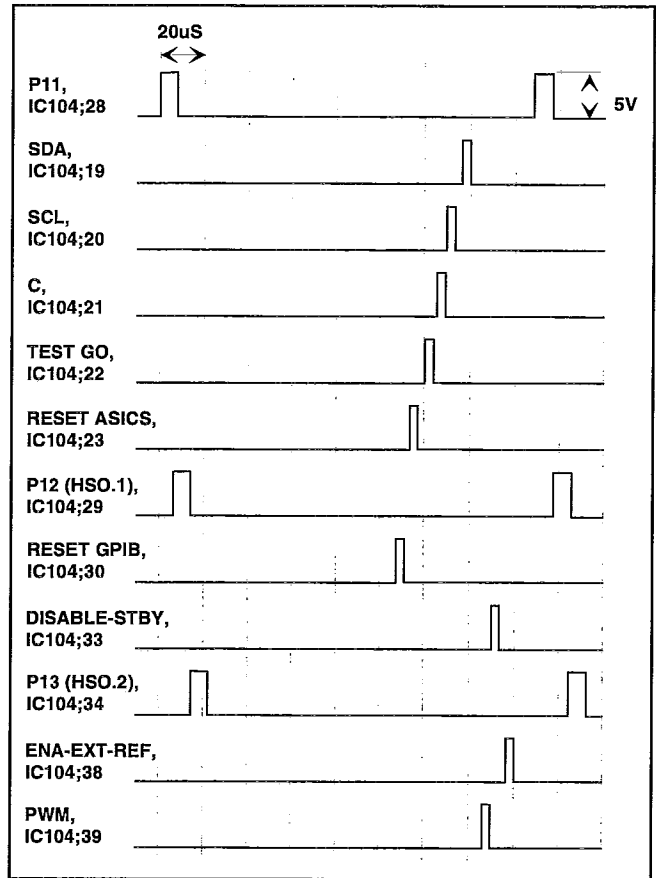

Fig. 5-7 Timing diagram for μ-controller.
- The timing diagram, fig. 5-7, shows the signals generated by the stimuli program.